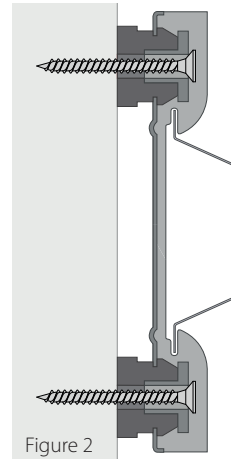

Figure 2
- ❑ Fix the Isoblocks with suitable screws, through the circular metal inserts on each end (figure 2). Typically, torque setting on drills etc. should be medium to ensure that the Isoblock latex grommets are not overly compressed during installation.